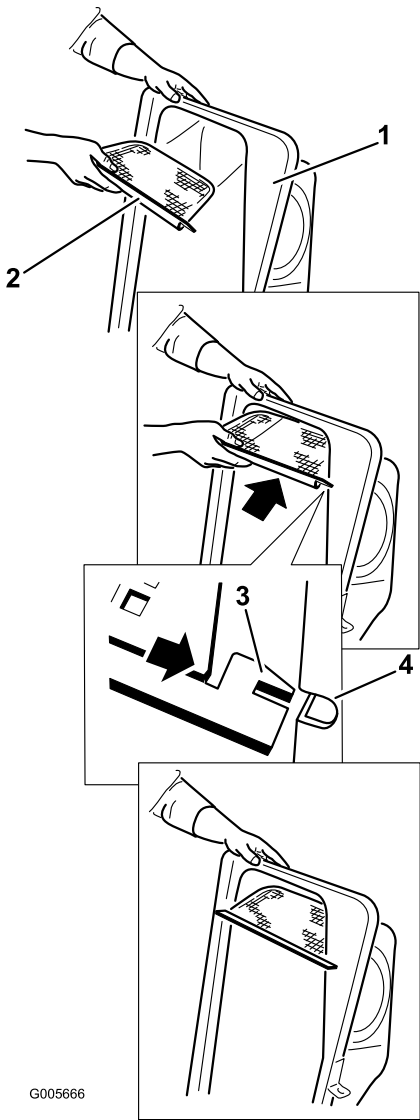

Figure 19
2. Install the screen as shown in Figure 19 and that it slopes down toward the collection bags.